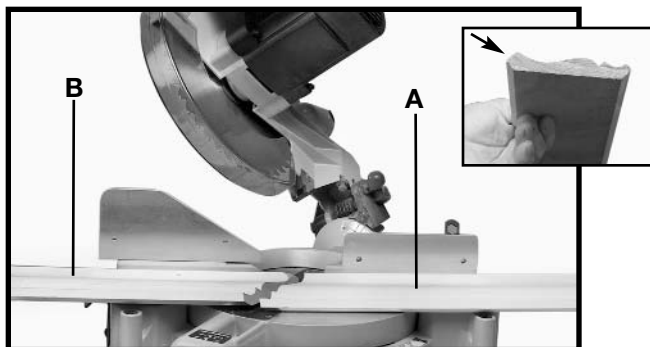
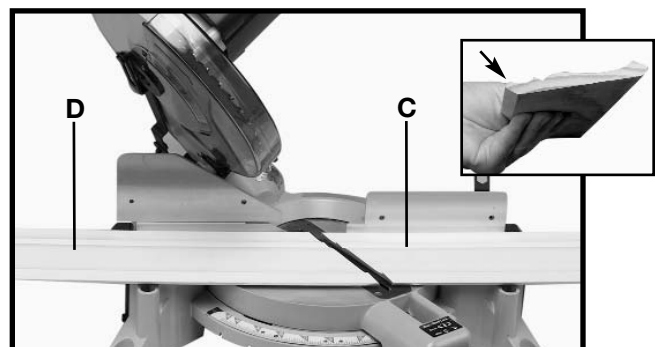
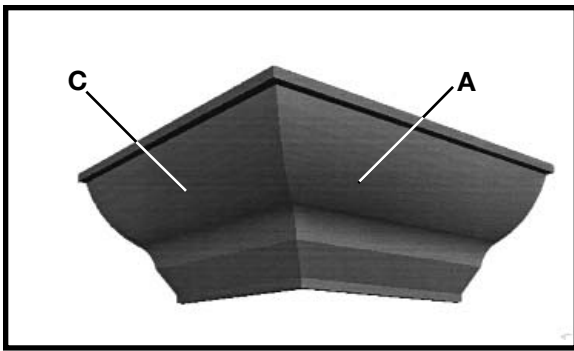
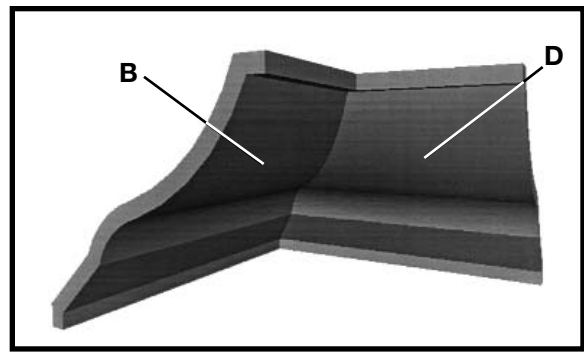

Fig. 41
Fig. 42
Fig. 43
Fig. 44
3. Place the crown moulding on the table with the **CEILING EDGE** of the moulding against the fence (see insert - Fig. 41), and make the cut. **NOTE:** The piece of crown moulding used for the outside corner will always be on the right hand side of the blade (A) Fig. 41. The piece of crown moulding used for the inside corner will always be on the left hand side of the blade (B) Fig. 41.
4. To make the matching halves of the inside and outside corners, rotate the table to the 31.6 degree left miter position and tighten table lock handle. **NOTE:** A triangle indicator is provided on the miter scale to find this angle quickly (Fig. 42).
5. Place the crown moulding on the table with the **WALL EDGE** of the crown moulding (see insert - Fig. 42) against the fence and make the cut. Again, the piece of crown moulding used for the outside corner will always be on the right side of the blade (C) Fig. 42. The piece of crown moulding used for the inside corner will always be on the left side of the blade (D) Fig. 42.
6. Fig. 43 illustrates the two outside corner pieces - (A) being the piece cut at (A) Fig. 41, and (C) being the piece cut at (C) Fig. 42.
7. Fig. 44 illustrates the two inside corner pieces - (B) being the piece cut at (B) Fig. 41, and (D) being the piece cut at (D) Fig. 42.